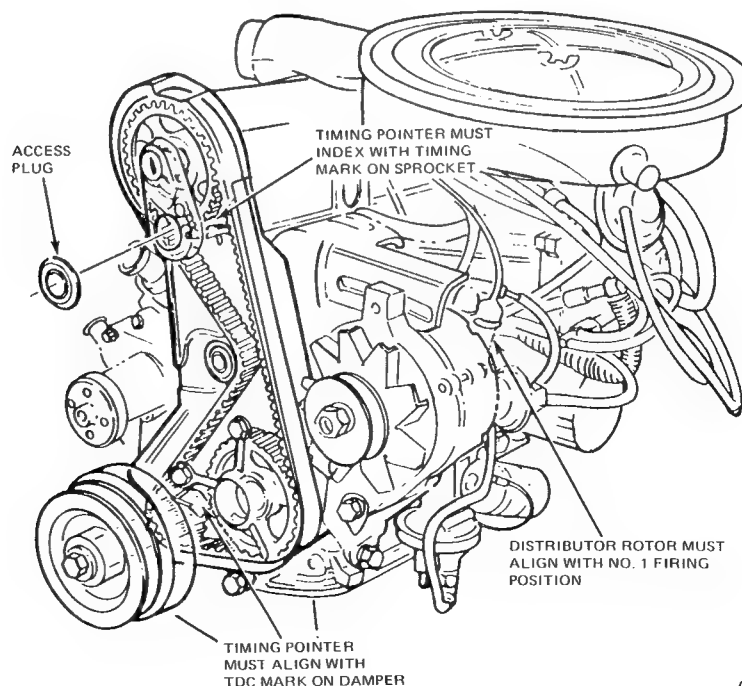

FIG. 9B Camshaft Drive Train Installation
5. Position the crankshaft sprocket and the camshaft sprocket as shown in Figure 9B. Remove the distributor cap and set the distributor rotor to No. 1 firing position by turning the auxiliary shaft.
8. Rotate the crankshaft two complete turns in normal rotation to remove the slack from the belt. Torque tensioner adjustment and pivot bolts to specifications. Re-check the alignment of the timing marks (Figure 9B).